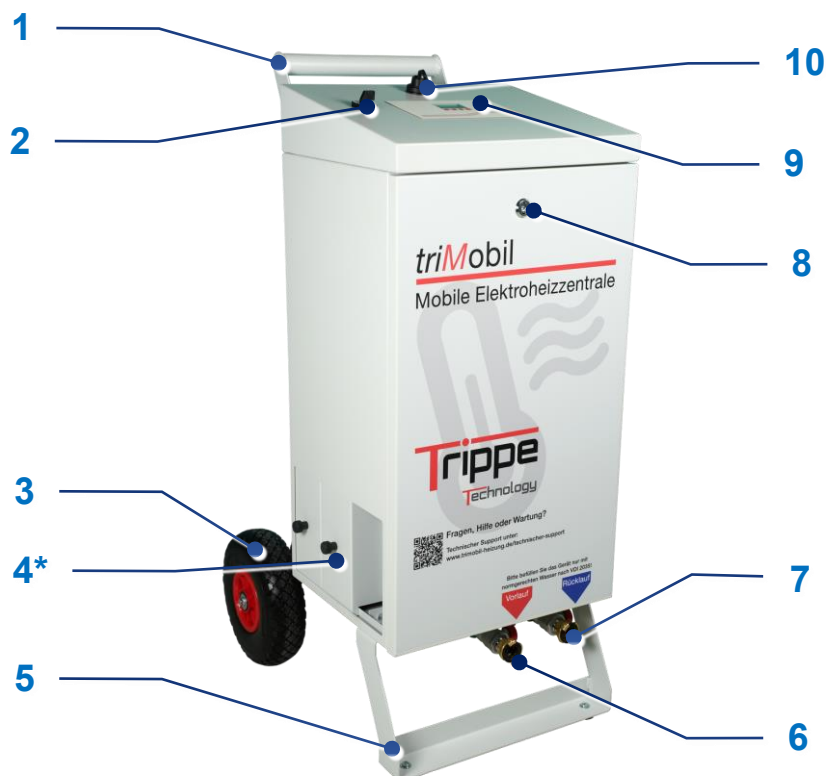

Fig. 1): Exterior view of the mobile heating unit (sample)
The housing front cover (see Fig.1 “Exterior view” pos. 8) protects the operator from coming into contact with hot or live parts during operation.